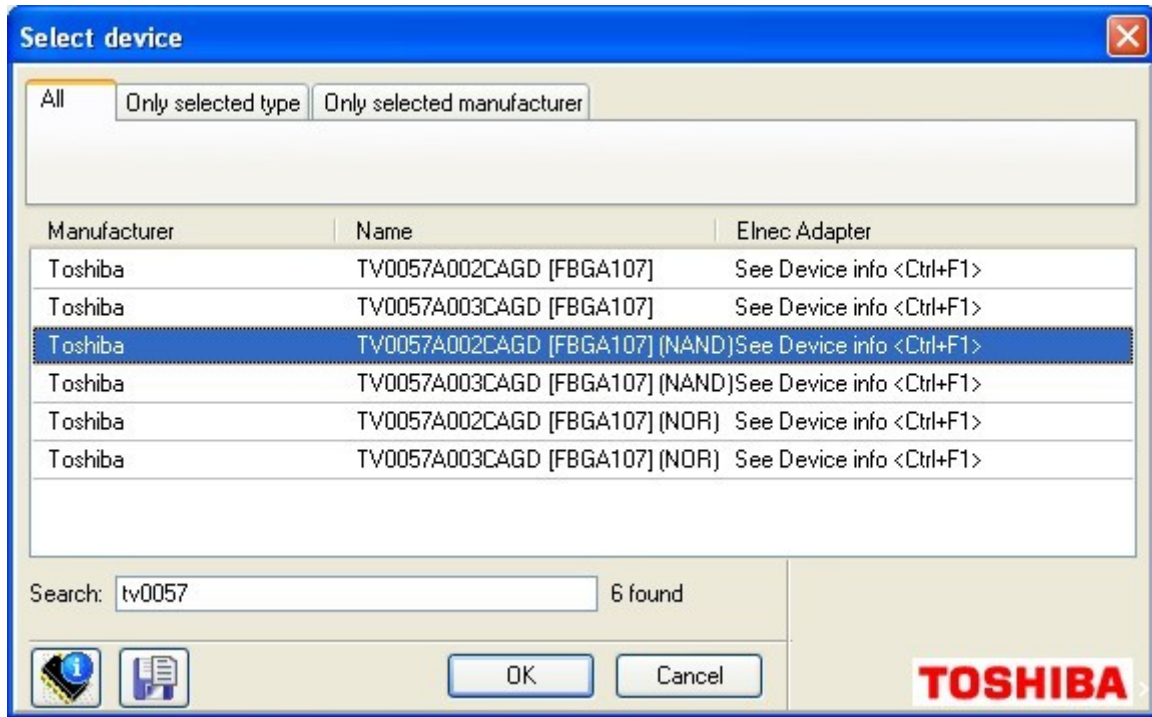

Figure 14: Selecting NAND part of multi-chip device.
1. Firstly, display the Select device window and list for the relevant Sub-device, i.e. for TV0057A002CAGD [FBGA107] (NAND) in this example (see Figure 14).